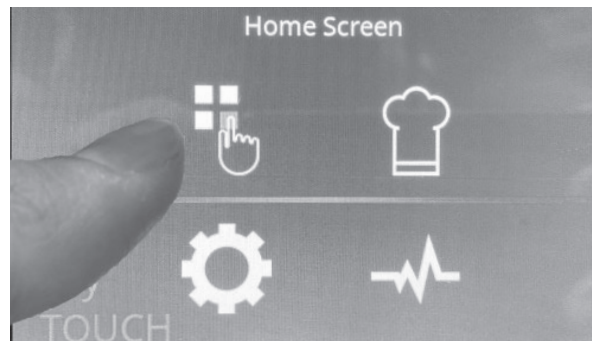
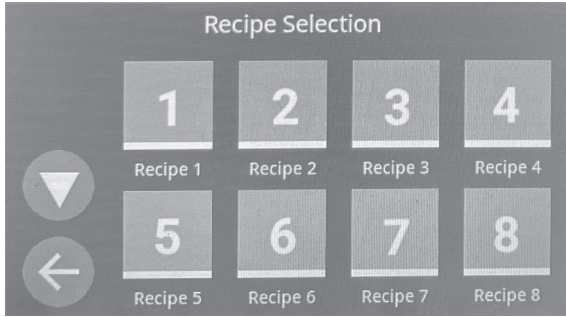

Figure 3
Figure 4
1. Touch the Press & Go button to display the 20 pre-set recipes. Press any of the numbered buttons or images to select the recipe. (Figure 3 and Figure 4)